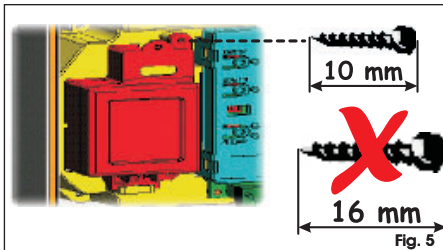

Fig. 5
- Insert the battery in the housing you have just created, and secure it on the anchoring supports (Fig. 5).